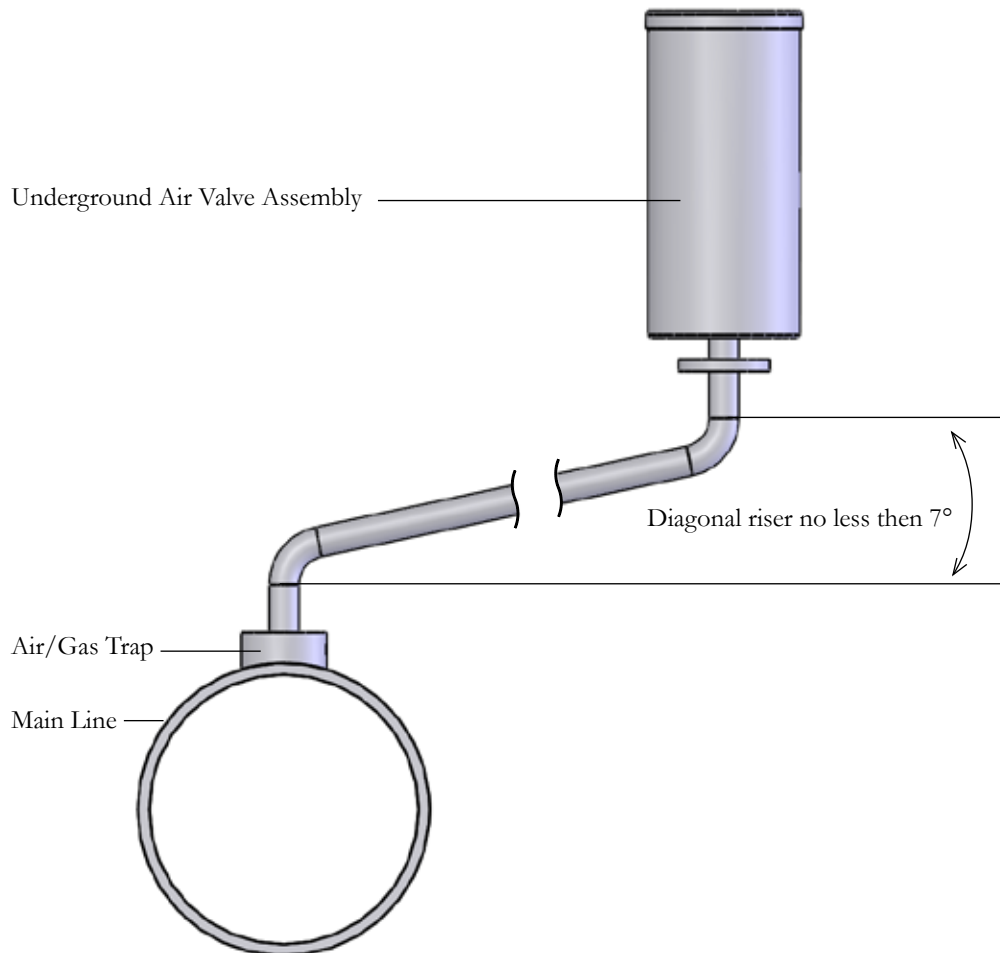

Fig. 3
The distance from the top surface of the Valve Box Cover (2) to the bottom of the access cover {h1} should be between 5 cm (2") and 20 cm (8"). From this point the overall height {H} of the unit from the pipeline flange or riser flange will be measured (See Fig. 3).
The bore diameter {d1} should be at least 1 meter (40"). This will allow at least 30 cm (12") for the filling material around the Valve Box (5) (See Fig. 3).
The unit must be surrounded with a fine grained filling material such as sand or very fine gravel (in accordance with local standards and by-laws). The filling material must be of a type that will not expand when absorbing water. (See Fig. 3).